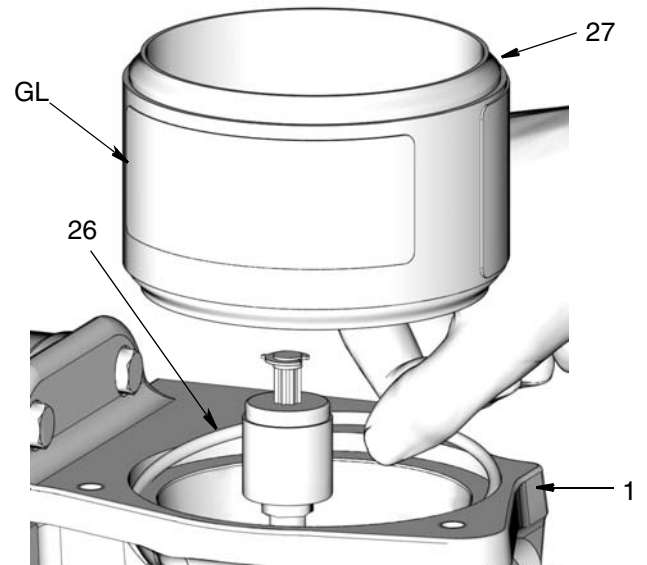

FIG. 58
10. Apply a thin layer of grease to o-ring (26). Install o-ring (26) into groove in the pump base (1) as shown in FIG. 58.
11. Install reservoir (27) into the pump base (1) with Graco Identification label (GL) facing to the front of the pump base as shown in FIG. 58. Take care to not pinch or move the o-ring.